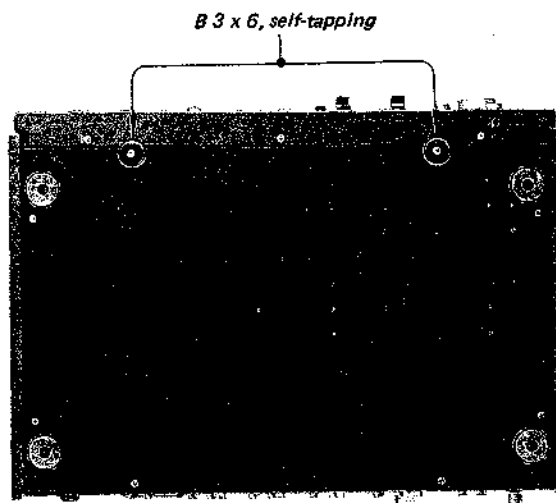
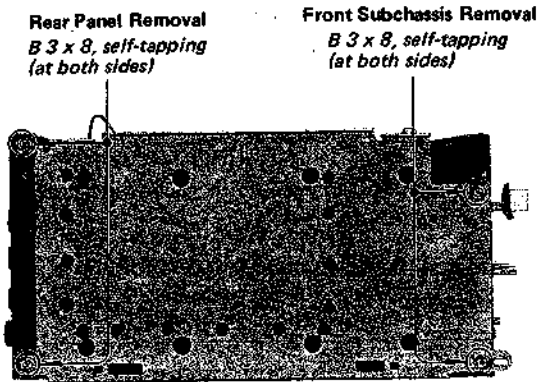
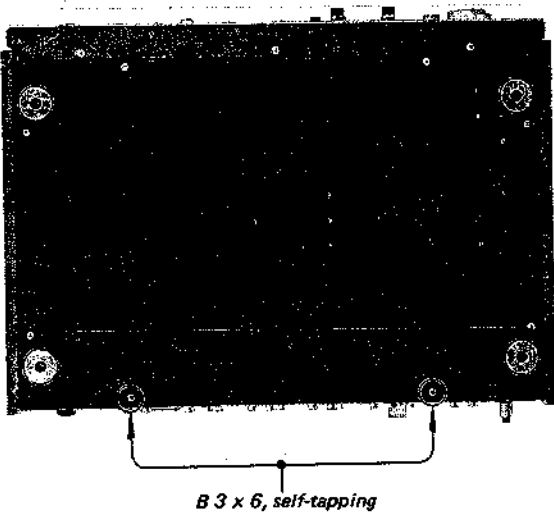

Fig. 2-4. Front subchassis removal
Fig. 2-5. Front subchassis and rear panel removal
Fig. 2-6. Rear panel removal
4. Remove the six screws shown in Fig. 2-4 and Fig. 2-5. This frees the front subchassis.
2. Remove the six screws shown in Fig. 2-5 and Fig. 2-6.